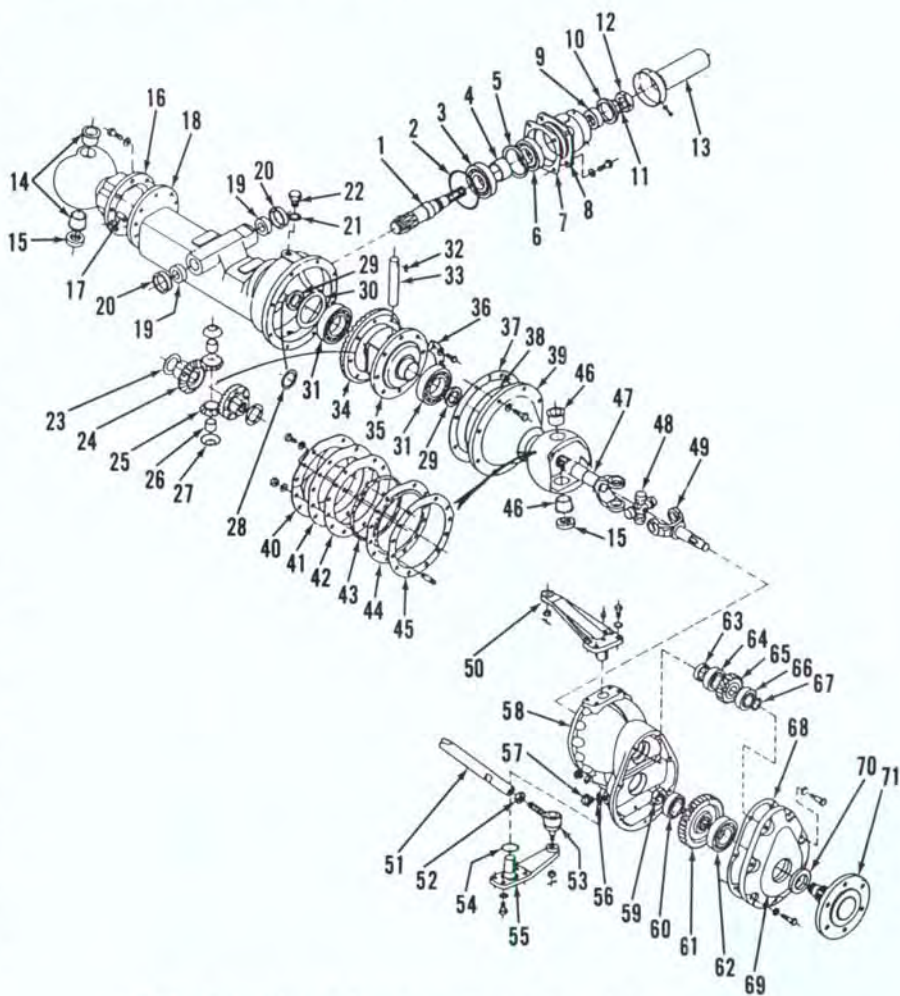

Fig. 5—Exploded view of front-wheel drive axle used on Model L225DT.
6. R&R AND OVERHAUL. To disassemble outer drive assembly, first remove wheel from side to be serviced. Remove cap screws securing outer cover (69—Fig. 5) to housing (58), then withdraw cover with components (59, 60, 61, 62, 70 and 71) and allow oil to drain into a suitable container. Remove nut (59) from wheel axle (71) to separate components.
7. R&R AND OVERHAUL. Remove outer drive assembly as outlined in paragraph 6. Detach tie rod end (53-Fig. 5) from steering arm (55). Remove cap screws securing plates, gasket and seal parts (40 through 45) to housing (58), then slide components toward center. Remove snap ring (67), then slide bearing (66) and gear (65) from yoke shaft (49). Unbolt and remove king pins (50 and 55). Lift outer drive housing (58) from spindle housing (39). Slide plates, gasket and seal parts (40 through 45) off spindle housing (39). Withdraw axle shaft assembly (47, 48 and 49). Remove cap screws securing spindle housing (39) to axle housing (18) and separate components, while preventing possible movement of differential away from axle housing.
8. R&R AND OVERHAUL. Remove outer drive housing, king pins, axle shafts and left spindle housing as outlined in paragraph 7. Lift differential and bevel ring gear assembly (23 through 36-Fig. 5) from axle housing (18). Remove cap screws securing bearing case (8), then withdraw bevel pinion assembly (1 through 13) from axle housing.
first remove screws securing cover (13) to bearing case (8) and separate. Place bevel pinion (1) in a suitable holding fixture, then remove nut (12) from pinion shaft. Complete disassembly with reference to Fig. 5.